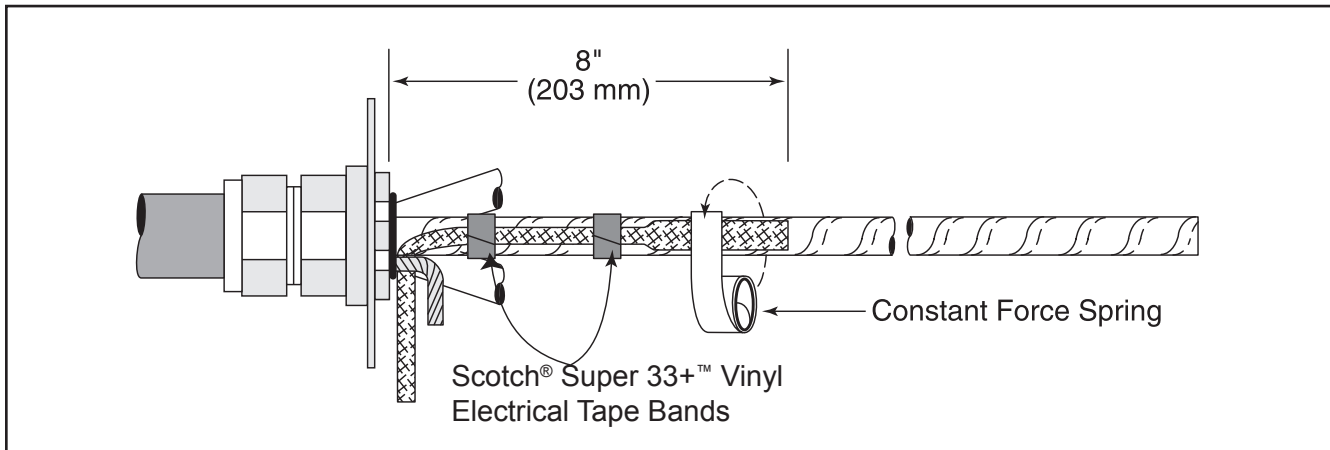

Figure 3
- A. Position each expanded ground braid end over phase shielding as shown in Figure 3.